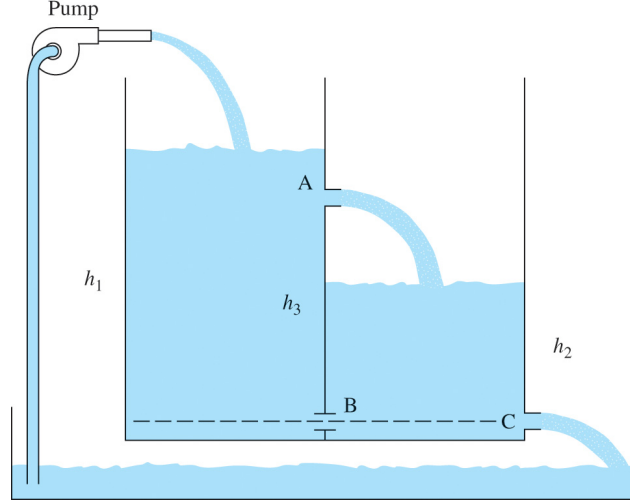

Fig. 2.61 Two-tank fluid-flow system for Problem 28
28. A laboratory experiment in the flow of water through two tanks is sketched in Fig. 2.61. Assume that Eq. (2.96) describes flow through the equal-sized holes at points A, B, or C.